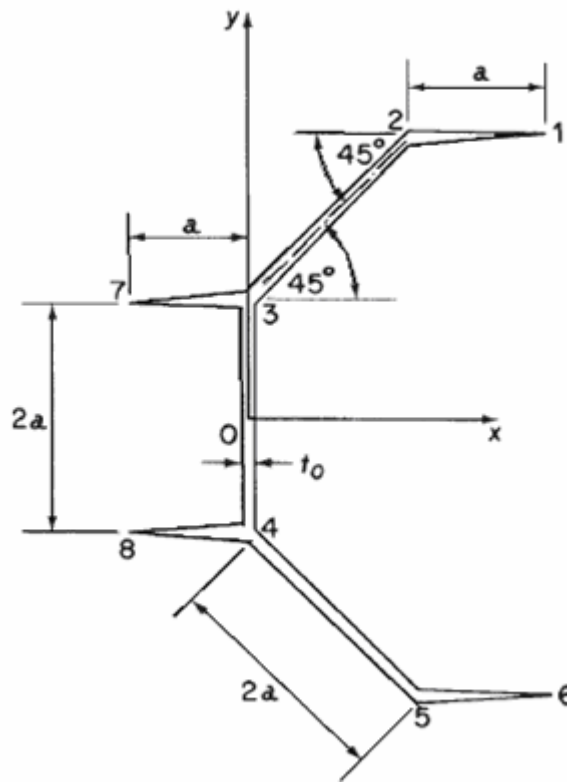

Figure 4:
4. The thin-walled section shown in Figure 4 is symmetrical about the x axis. The thickness t_0 of the centre web 34 is constant, while the thickness of the other walls varies linearly from t_0 at points 3 and 4 to zero at the open ends 1, 6, 7 and 8. Determine the St. Venant torsion constant J for the section and also the maximum value of the shear stress due to a torque T. If the section is constrained to twist about an axis through the origin O, plot the relative warping displacements of the section per unit rate of twist.